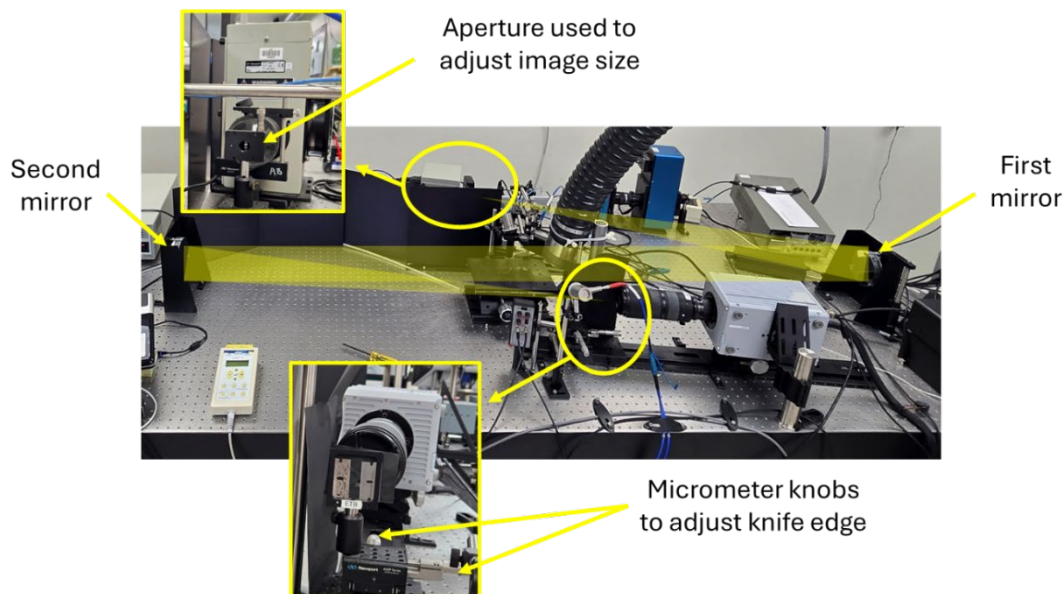

Figure 28. Top: Schlieren setup. The yellow shaded areas represent the light pathway.
- Size of the image is dictated by the aperture in front of the lamp (Figure 28)